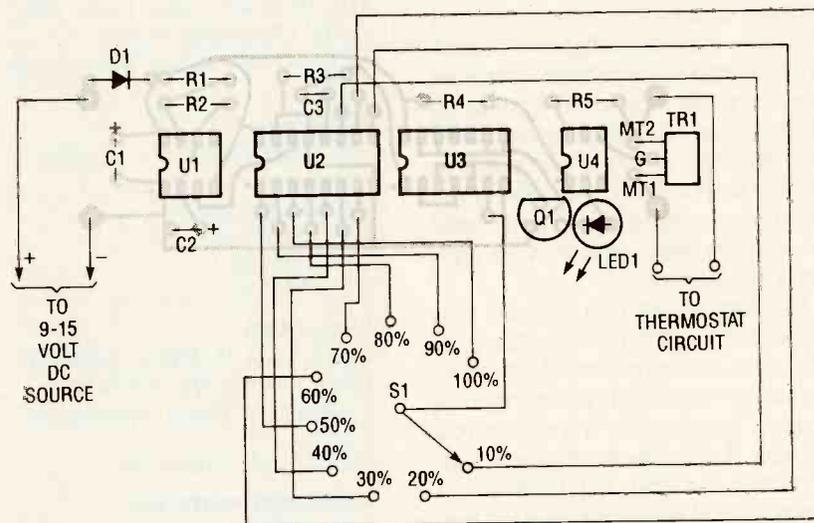
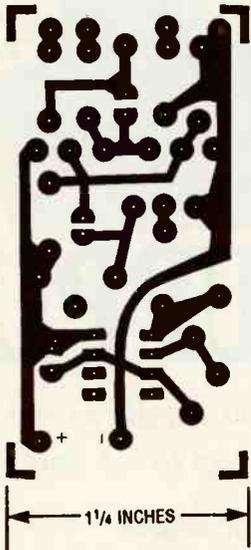

Fig. 3. Assemble the printed-circuit board using this parts-placement diagram as a guide. Note: It is recommended that sockets be provided for all of the IC's.
Fig. 2. The author's prototype of the circuit was assembled on a printed-circuit board, the template for that printed-circuit layout is shown here full size.
Once you've obtained all the necessary parts and the printed-circuit board, construction can begin. Assemble the printed-circuit board using Fig. 3 as a guide. It is recommended that sockets be provided for all of the IC's. The use of sockets allows for ease of troubleshooting and servicing of the circuit should it ever become necessary. If you do not have 6- or 8-pin sockets on hand (for U4 and U1, respectively), they can be simultaneously fabricated by carefully cutting a 14 pin socket into two pieces with a small hacksaw.
The rotary switch may be installed in any convenient location near the circuit board, with the positions marked 10%, 20%, etc., (in 10% increments) up to 100%. That allows you to instantly change the Fuel Miser's duty cycle at any time. When wiring S1 refer to Fig. 3, which illustrates the location of the connections.
**Construction.** Building the *McTrak* is simple and the parts layout is not critical, so just about any construction scheme will suffice. However, the author's prototype of the circuit was assembled on a printed-circuit board. A template for that printed-circuit layout is shown in Fig. 2. If you opt to go the printed-circuit route, follow the parts-placement diagram shown in Fig. 3.
As usual, start by installing the passive components (resistors, capacitors, etc.) followed by the semiconductors, double-checking all part locations and their orientations as they are installed on the board. Once the electronic components have been installed, connect a 9-volt battery connector to the board at the points indicated in Fig. 3. Be sure that the proper polarity is observed.